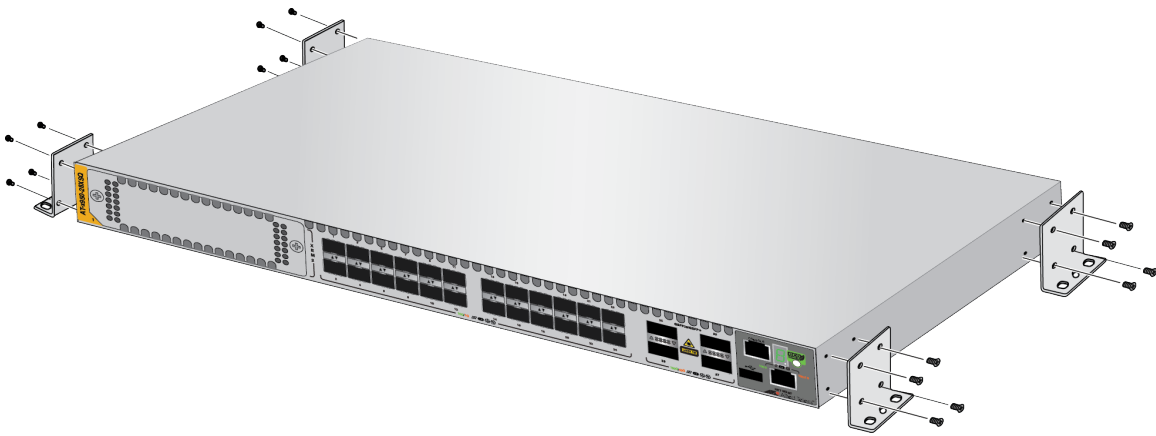

Figure 75. Installing the Brackets to the Switch for Wall Installation
2. Install the four brackets with the sixteen screws that come with the switch to the sides of the unit, as shown in Figure 75.
2. Install the four brackets with sixteen screws that come with the switch to the sides of the unit, as shown in Figure 75 on page 126.